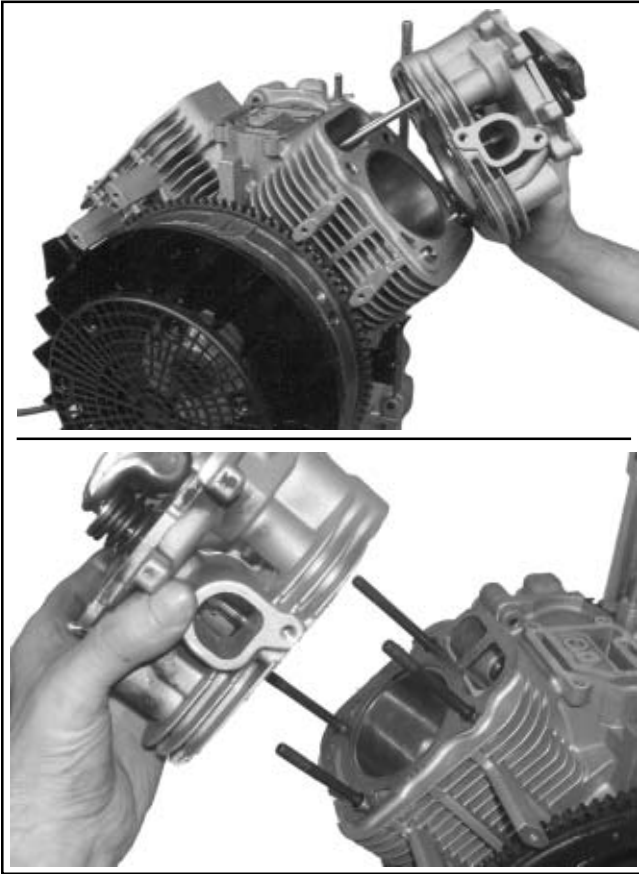

Figure 9-47. Removing Cylinder Head Assembly.
3. Carefully remove the push rods, cylinder heads and head gaskets. See Figure 9-47.